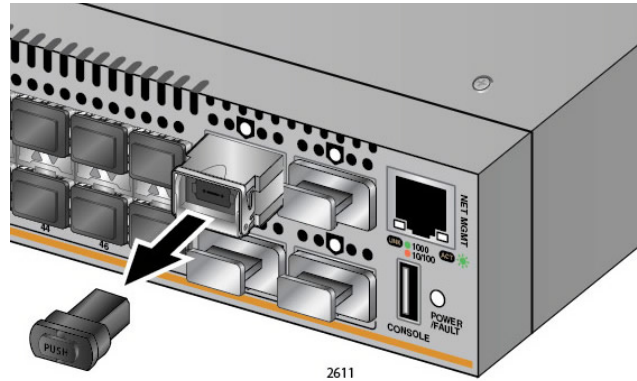

Figure 39. Removing QSFP+ Dust Cover
6. Remove the dust cover from the transceiver. See Figure 39 on page 77.